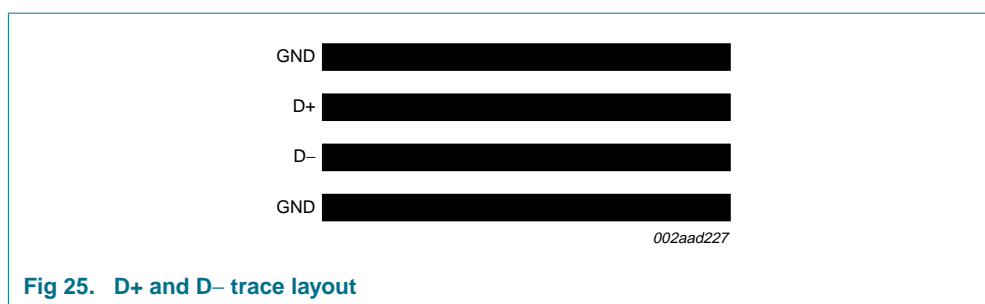

Fig 25. D+ and D– trace layout
2. Route the D+ and D– lines parallel and close together with ground guards enclosing them (see Figure 25).